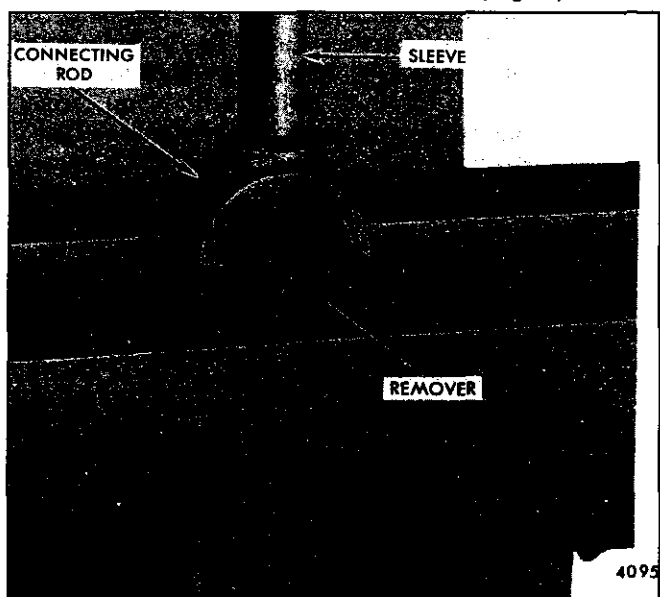

Fig. 5 – Removing Spray Nozzle
3. Support the connecting rod and tool in an arbor press (Fig. 5).